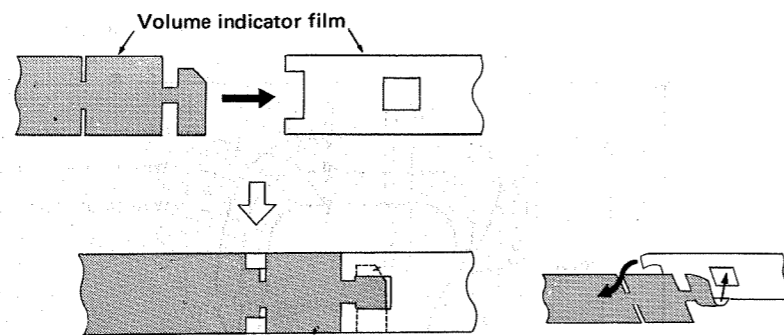

Fig. 18
- Connect the volume indicator film as shown in Fig. 18.